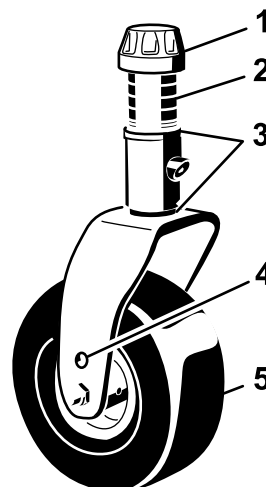
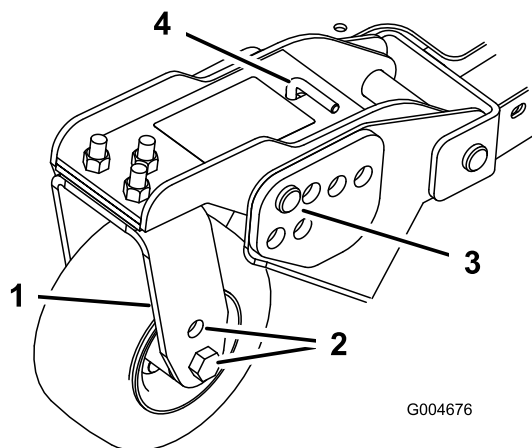
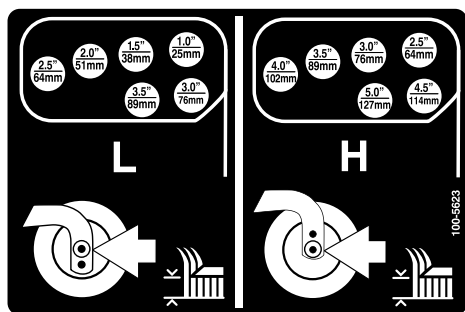

Figure 19
Figure 21
Figure 22
- Position the castor wheel axles in the same holes in all of the castor forks (Figure 19 and Figure 21). Refer to the following chart to determine the correct hole for the setting.
- Remove the tensioning cap from the spindle shaft (Figure 19) and slide the spindle out of castor arm. Put the two shims (3 mm [1/8 inch]) onto spindle shaft as they were originally installed. These shims are required to achieve a level across the entire width of the cutting units. Slide the appropriate number of 13 mm (1/2 inch) spacers onto the spindle shaft to get the desired height-of-cut; then slide the washer onto the shaft.
4. Remove the hairpin cotter and clevis pins from the castor pivot arms (Figure 21).
5. Rotate tension rod to raise or lower pivot arm until holes are aligned with selected height-of-cut bracket holes in the cutting unit frame (Figure 21 and Figure 22).